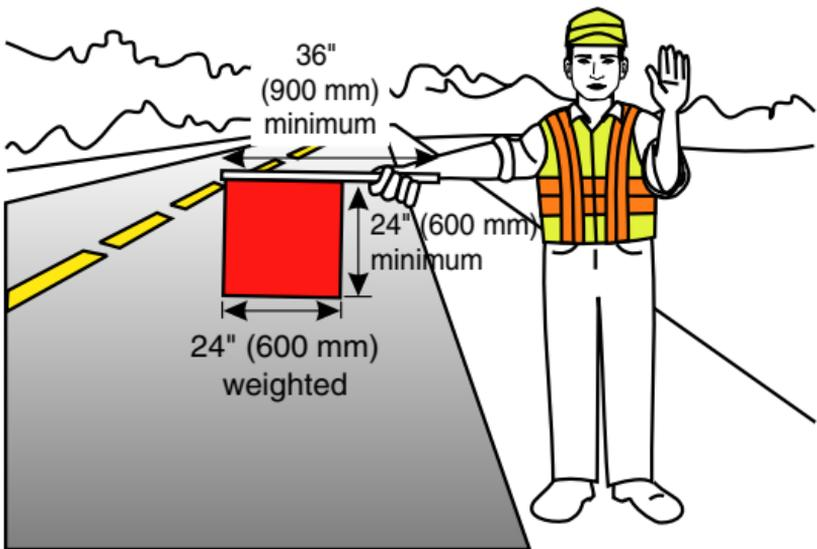

Figure 11
2. Extend the flag into the traffic lane (see Figure 11).